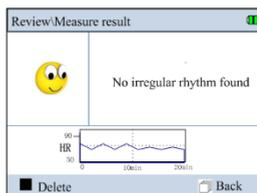

Figure 4-12 (no irregularity found in Ext.)
1. In the external lead wire measuring mode, the current measurement result will be saved by default, as shown in figure 4-12/4-13. Press the “■” OK key or “⏪” back to return the default menu screen after reviewing the result.